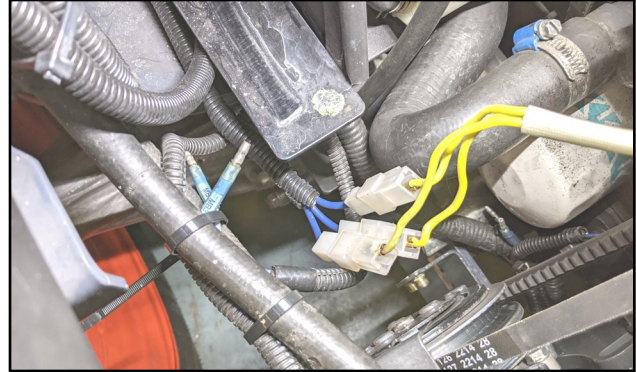

Fig. 7.2 (Connect Dynamo Wiring Harness)
7.2 See fig. 7.2. Connect the dynamo wiring harness to the dynamo.